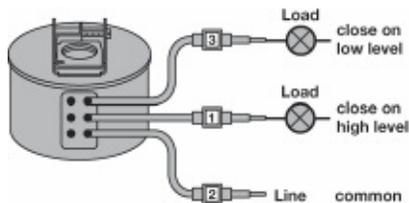

Figure 7
3. Wiring leads will extend through conduit connection of the switch housing base. Each wiring lead is marked with a number from 1 to 3 for SPDT switches, or 1 to 6 for DPDT switches. Refer to Figures 7–9. These numbers correspond to the numbers marked on the terminal block models.
4. Wire the switch as shown in Figures 7–9.